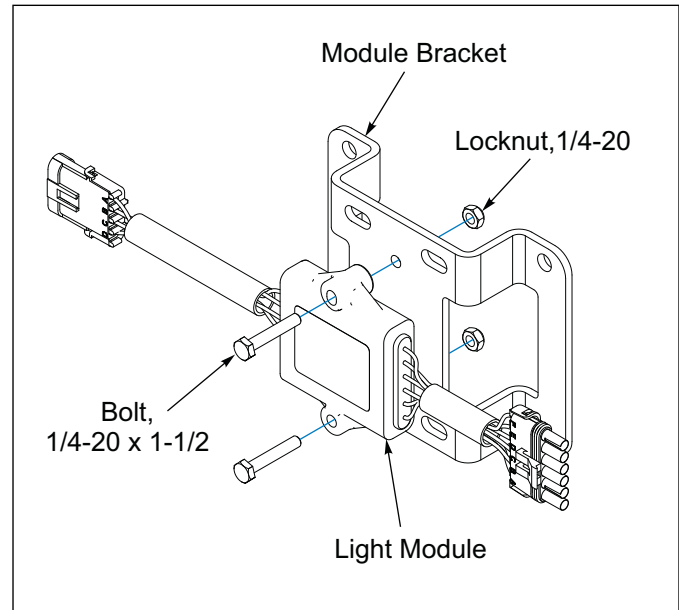

Figure 2-16: Light Module and Bracket
3. Attach the Light Module to the Module Bracket with 1/4-20 x 1-1/2 Bolts and Locknuts. **See Figure 2-16.**